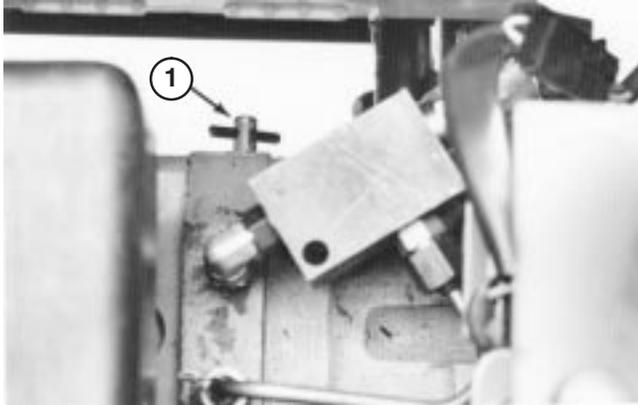

Figure 15
1. Reach in and rotate by-pass valve on transmission (Fig. 15) counterclockwise 1/2 to 1 turn. Opening the valve opens an internal passage in the pump, thereby bypassing transmission oil. Because fluid is by-passed, the machine can be pushed without damaging the transmission.